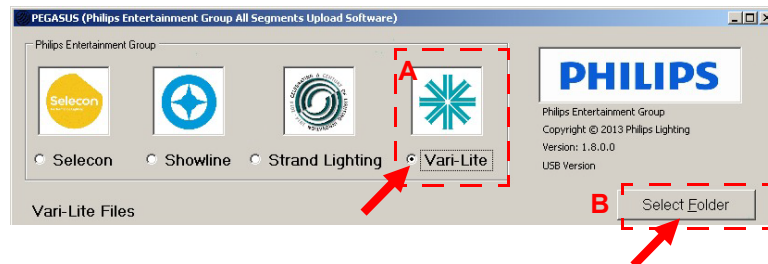

Figure 3-9: PEGASUS Software Selection Screen
- Select Vari-Lite for luminaire type (as shown in Figure 3-9.).
- As indicated in Figure 3-9, click on Select Folder button to open browser window.